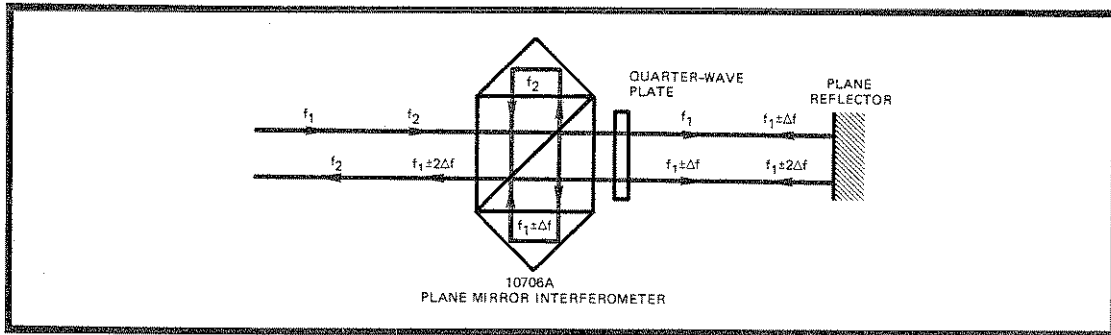

Figure 2-16. Plane Mirror Interferometer Laser Beam Path
2.16 PLANE MIRROR INTERFEROMETER LASER BEAM PATH (Figure 2-16). The beam entering the interferometer is split into f_1 and f_2 , with f_2 returning to the receiver after retro-reflection by the reference cube corner. As in the linear interferometer, f_1 is transmitted out to the plane retroreflector and is reflected back on itself (Figure 2-16). The quarter-waveplate causes the polarization of the return frequency to be rotated through 90 degrees so that $f_1 \pm \Delta f$ is reflected out a second time where it is Doppler shifted again. The polarization of $f_1 \pm 2\Delta f$ is rotated again through 90 degrees so it is now transmitted back of the receiver. Resolution doubling is inherent because of the double Doppler shift.